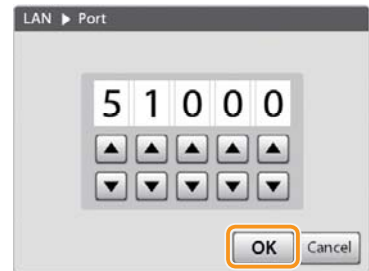

Figure 3-102
3. Tap [OK] to complete the setting. (Figure 3-102)